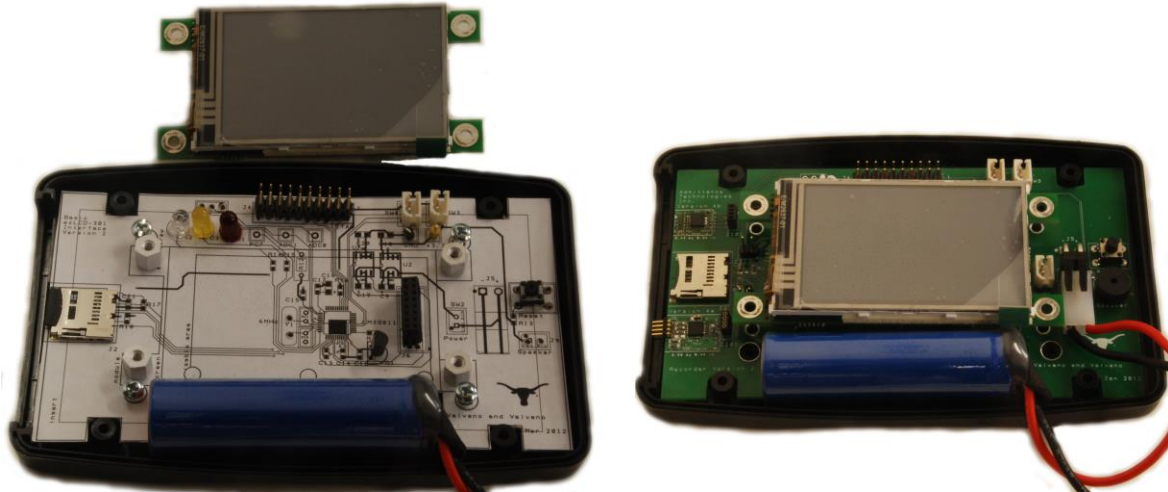

Figure 7.7. Example mockup of layout using paper printout glued on cardboard (LM3S811 into PacTec box).
- 6) Entering the wrong size in GoogleDoc (see Figure 7.7)